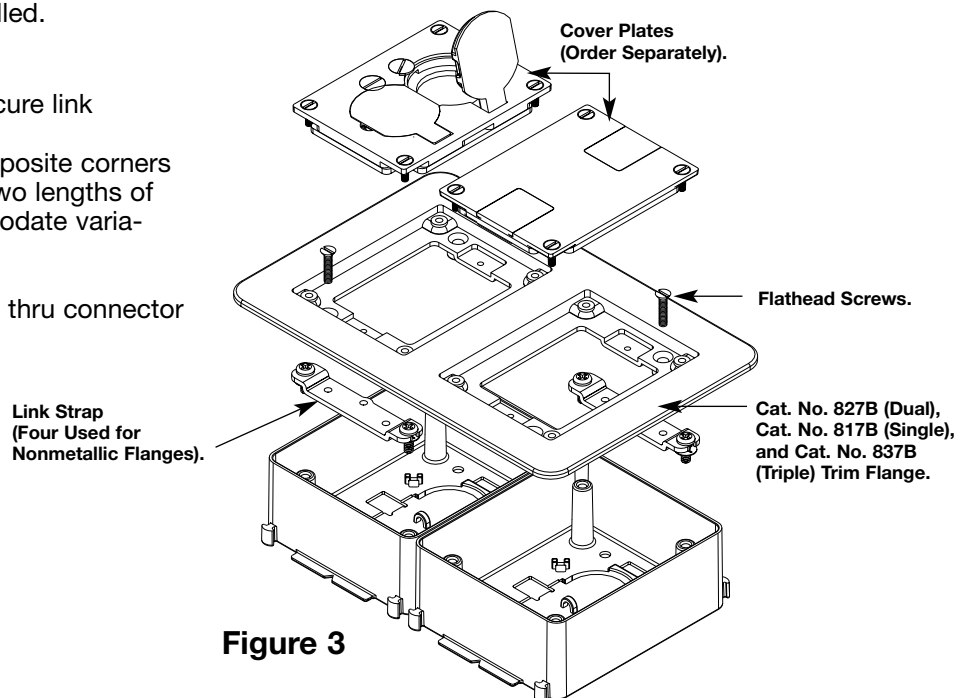

Figure 3
5. Attach trim flange (see Figure 3).